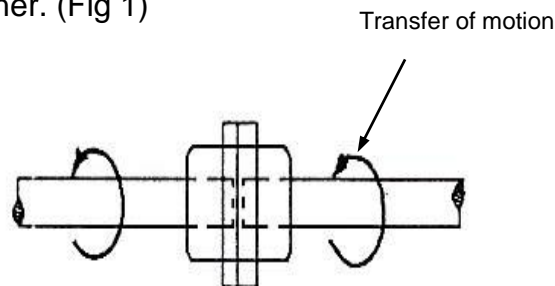

FIG 1.
- A. A coupling is used to couple two rotating shafts together and transfer the rotary motion from one shaft to the other. (Fig 1)